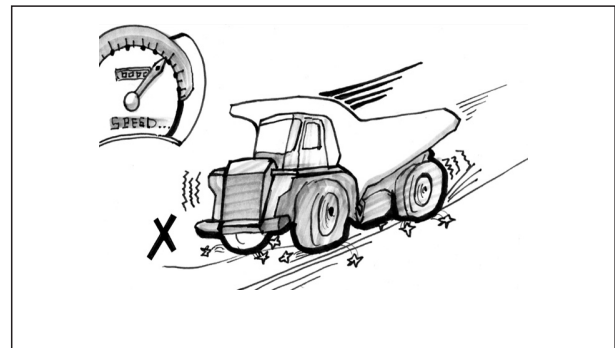

Fig 5.8
When the loader operator signals that the truck is loaded, sound two blasts on the horn, release the brakes and shift the transmission to drive (D). Move out of the loading area and onto the haul road with the least possible delay to allow any waiting truck to move into the loading position as soon as possible(refer to fig.5-8).